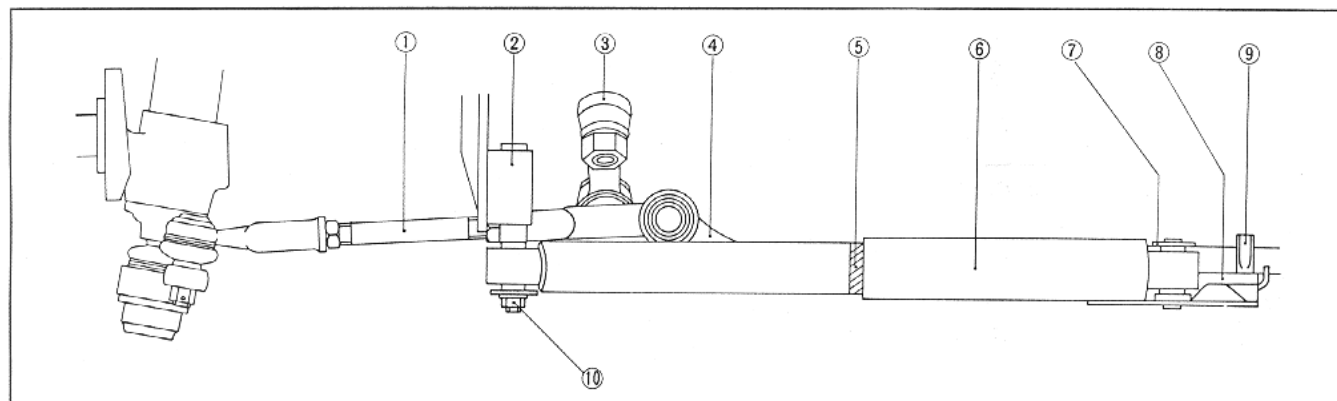

Fig. 10-30 Steering damper
10. Straighten the front wheel and install the steering damper bracket to the center link with U-bolts and nuts aligning the assembly mark as shown in Fig. 10-30. Then, tighten the nuts to 3.2 ~ 4.7 m·kg (23 ~ 34 ft·lb). (U.S.A. and Canada vehicles only)
a) Make sure the steering damper is placed in the correct position so that the assembly mark is aligned as shown in Fig. 10-30, when the front wheel is straight.